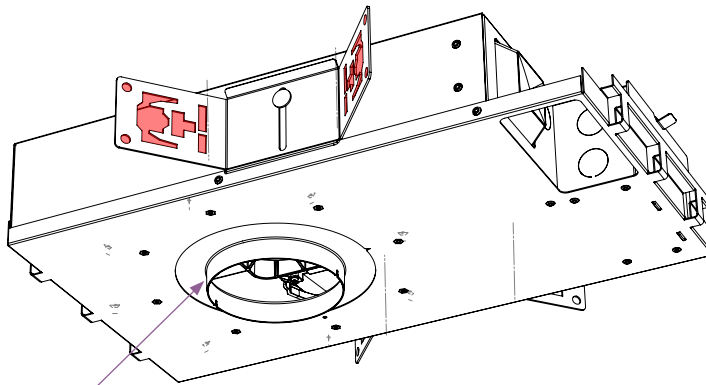

fig. 8: Collar
- a. Use bar stock or C-channel (not provided) to mount the D3 in the ceiling. The supports should go through the holes in the butterfly brackets and can be used to suspend the D3 without screws (see fig. 8).